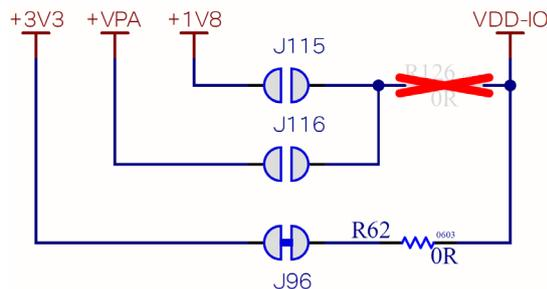

Figure 12: VDD-IO current jumpers
**+3V3** is supplied to IRIS-W10 through **VDD-IO (J96)** and **VDD (J97)**, with resistors **R62** and **R35** intended for current measurement, as shown in Figure 12 and Figure 13.
Two consecutive pins on Each 2.54 mm pitch 3-pin headers are connected across a **0R**, which can be replaced by a current-sense resistor ( $> 1R0$  is recommended), **J97**, and **J96** respectively, as shown in Figure 12 and Figure 13. The third pin on **J7** and **J67** are connected to **GND**. The **VDD** and **VDD-IO** module supplies are sourced through the resistors shown in Figure 12 and Figure 13. To measure current consumption, use a multimeter or other precise voltage measurement device and measure the voltage drop across pins 2 and 3. If the current sensor is removed from the circuit, current can also be measured directly by opening **J97** or **J96**. Use an ammeter in series with the two voltage pins.